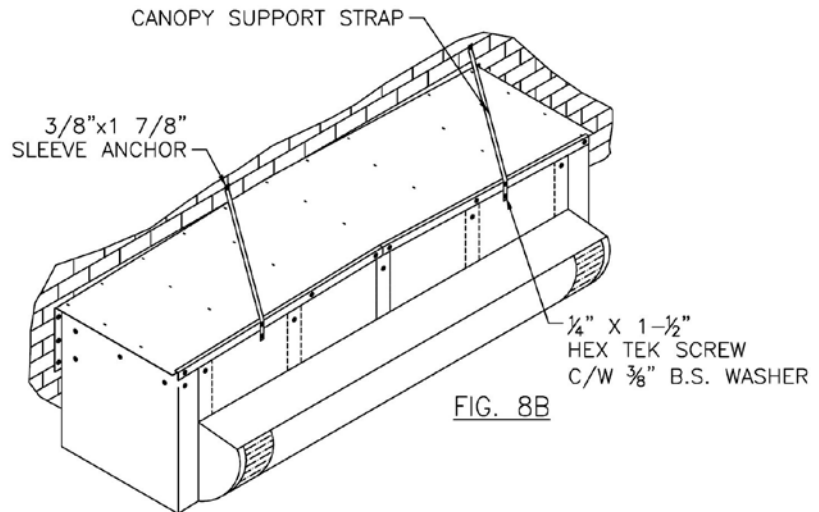

FIG. 8B
- i. Screw support straps to front of canopy (Fig. 8B).